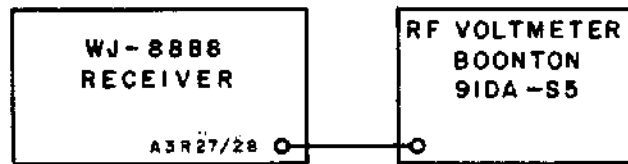

Figure 5-20. Test Setup, Third LO Amplifier Alignment
(1) Connect the equipment as shown in Figure 5-20. Do not use the 50 ohm adaptor with the RF voltmeter; connect the probe of the RF voltmeter instead directly to the junction of A3R27 and A3R28.